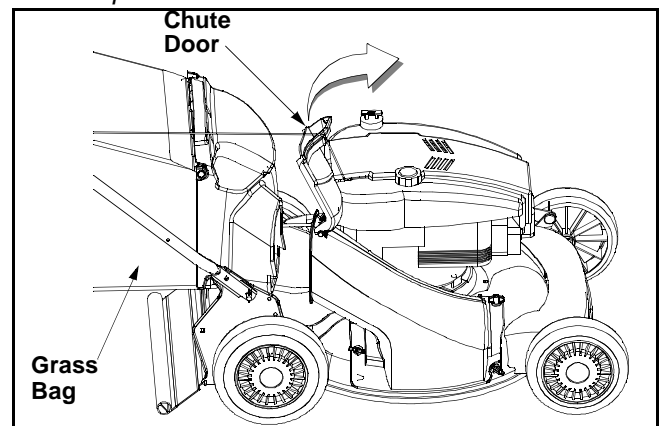

Figure 9
- Lift chute door on the grass bag adapter and slide grass bag onto the adapter. See Figure 9.